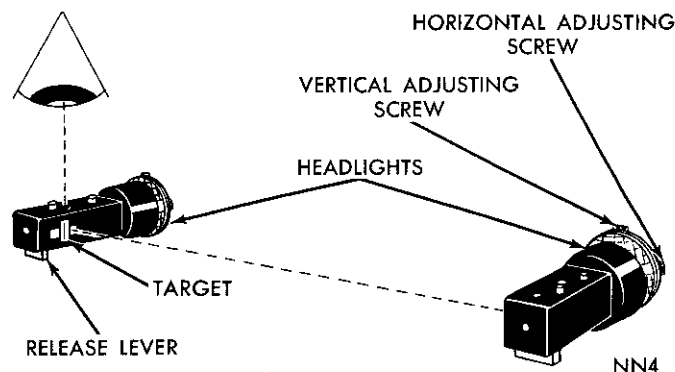

Fig. 4—Mounting and Adjusting Aimers
(2) Push release lever forward (to expel air from suction cup) and while holding aimer firmly against headlight aiming pads, slowly pull release lever back until spring lock engages in the slot, (Fig. 4).
(3) Mount second aimer on other side of vehicle, in the same manner.
(4) On each aimer, set pointer to numeral 2 on **DOWN** side of **DOWN-UP** scale.
(5) On each aimer position pointer, of **RIGHT-LEFT** scale, at **2-RIGHT**.